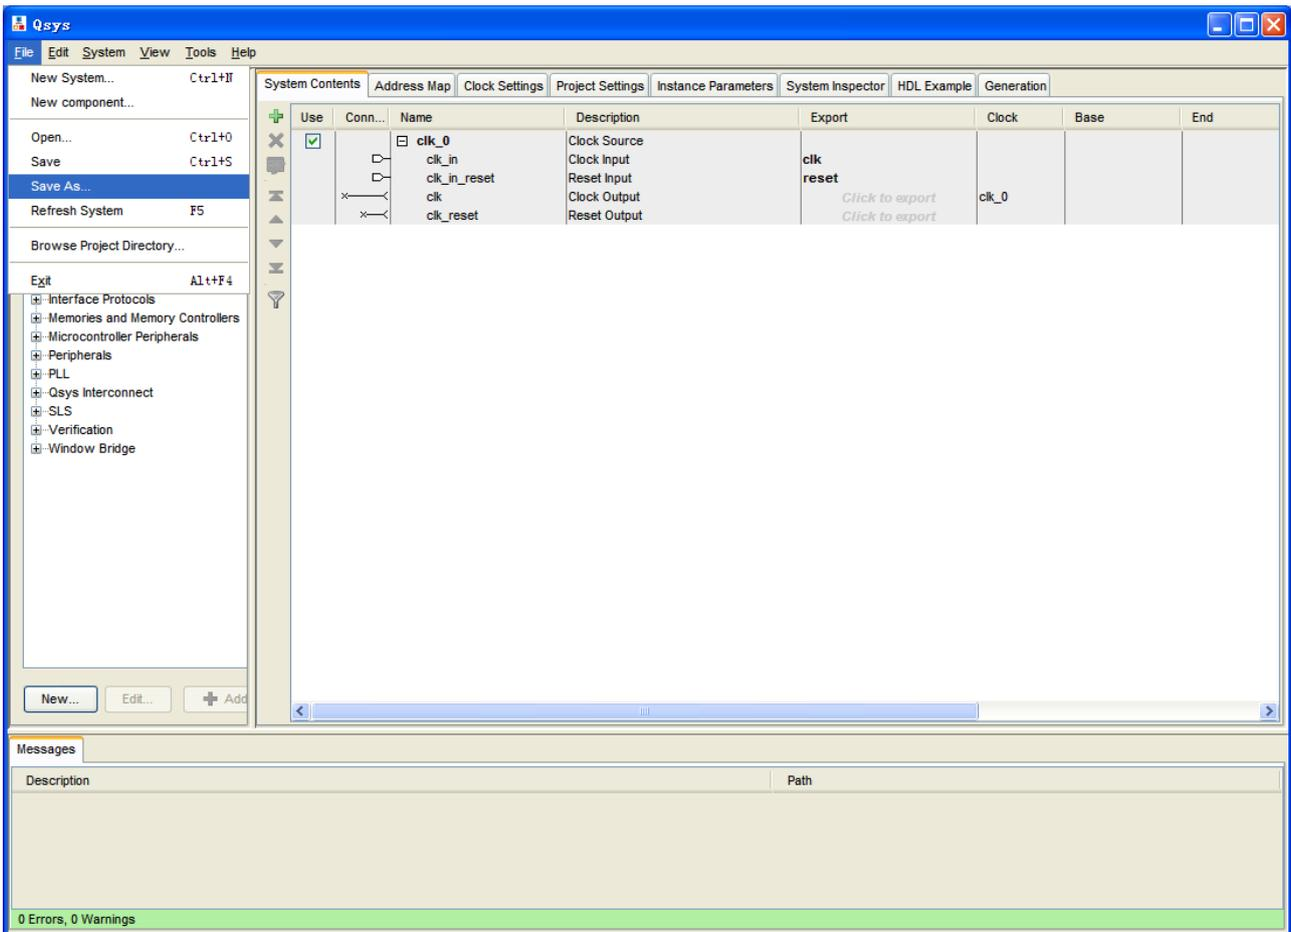

Figure 1-11 Save System
6. Save as the System as shown in Figure 1-11.